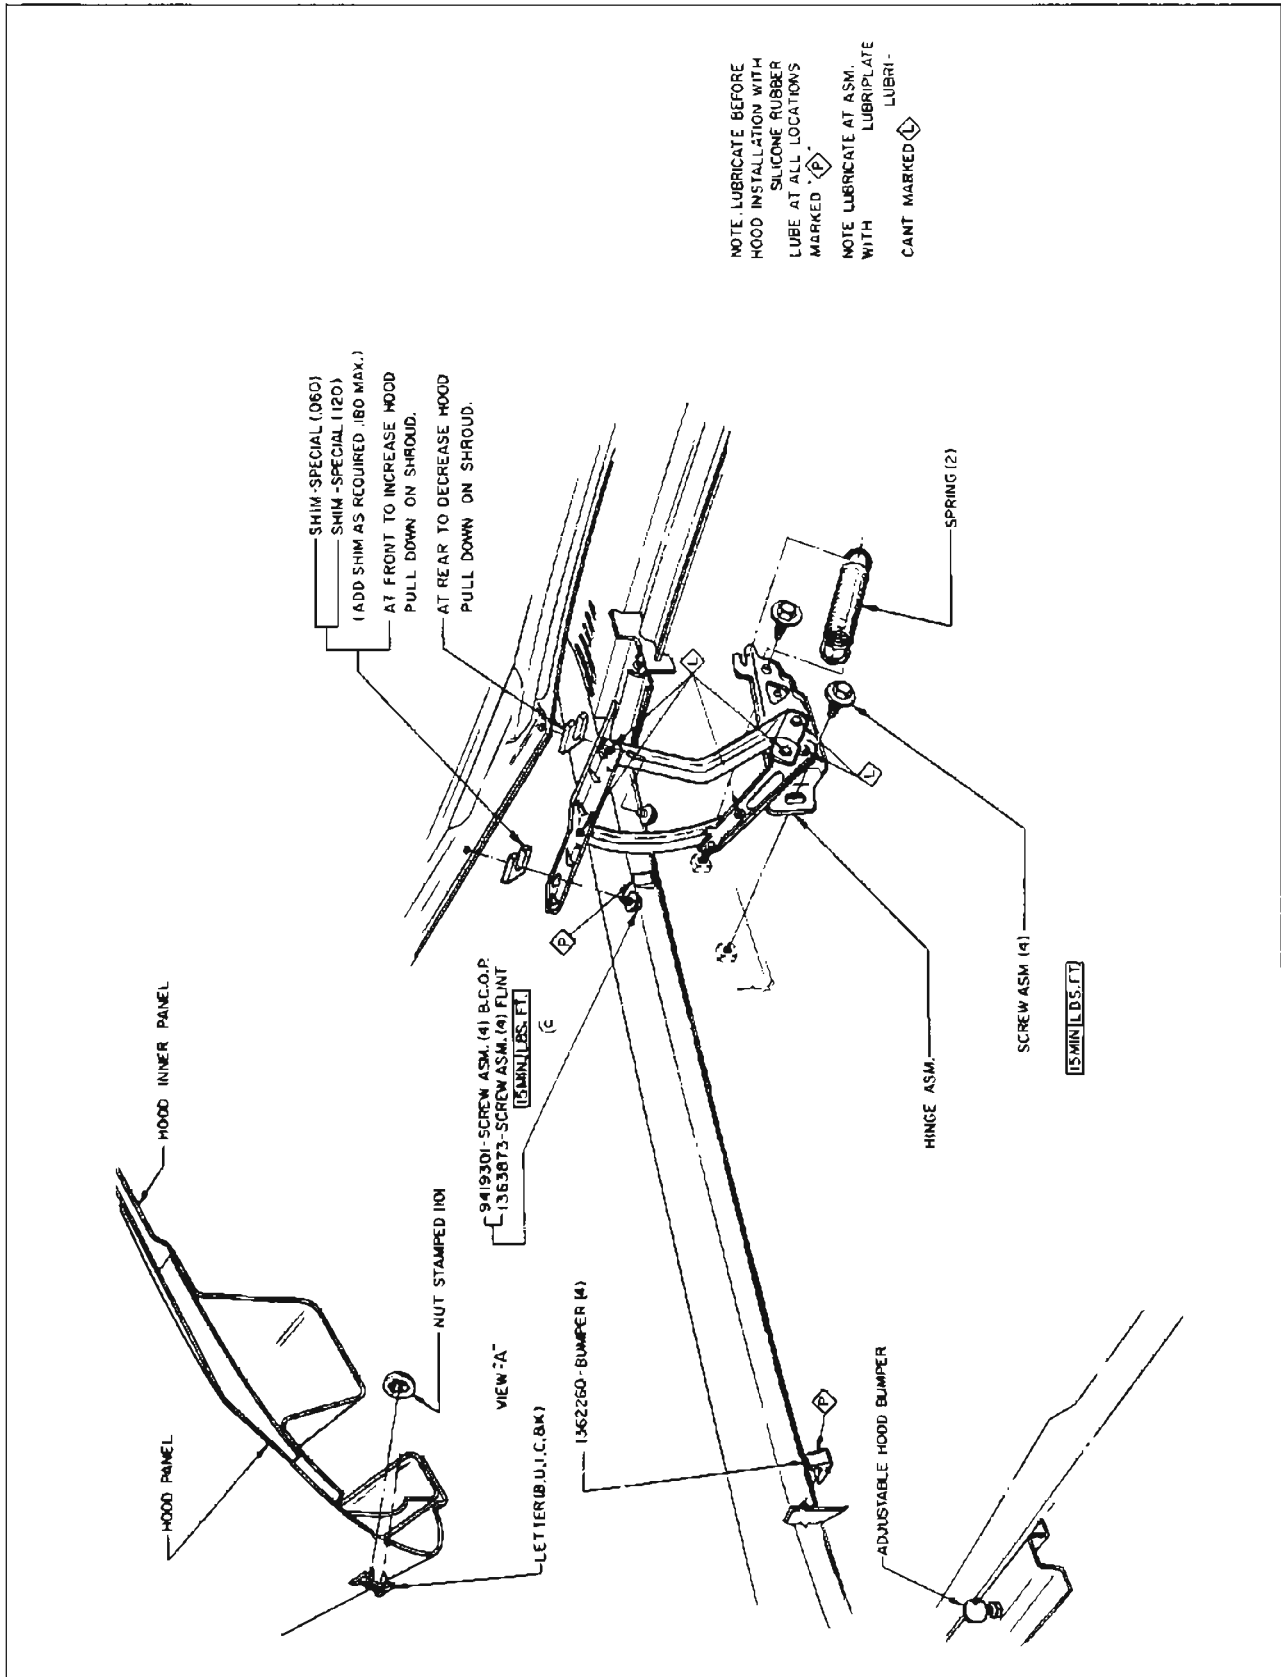

Figure 12-10—Hood Installation
3. Remove hinge to hood bolts shown in Figure 12-10. Then lift hood from car.
2. Rear Tension. Too little tension is indicated if the rear hood area flutters. To increase tension, add special washers between the hood and the hinges at the front bolts. (See Figure 12-10).
Too much tension is indicated if the rear area of the hood bends as it is closed. To decrease tension, add special washers between the hood and the hood hinges at the rear bolts. (See Figure 12-10).
3. Front Height. This is determined by two adjustable bumpers. (See Figure 12-10.) However, the front of the hood may not contact these bumpers unless the hood latch is correctly adjusted as described in step "4".
3. Scribe position of the hinge attachment on wheelhouse. Remove the two bolts attaching the front of the hinge to the wheelhouse (Figure 12-10) and remove the hinge.
To prevent hood panel flutter, the rear end of the hood panel must have firm contact with the rubber bumpers and lacing attached to cowl ledge. The hood may be raised or lowered by adjustment at hinges. (See Figure 12-10).